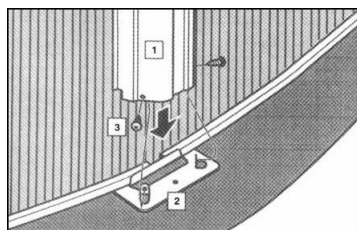
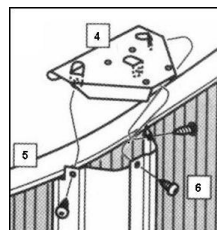

fig.27
fig.28
a. Line the bottom of one of the vertical profiles (VER) (1) with the two small tabs on the motherboard plate T1 (2). The tabs must be inside the vertical profile, fig. 27.
b. Align the holes for the screws TO2 (3), (550 ref -. Mod 230th / 350th / 460th - Ref. 551 -. Mod 550th - Ref. 552 - Mod 640th), on both sides of the vertical profile, making sure to fix the holes inside the tabs of the T1 plate (2), fig.
c. Put a top plate T2 (4) (ref. 571) onto the top edge of the pool wall and the vertical profile (VER) with the tabs inside the profile, fig. 28.
d. Align the holes for the TO2 (6) screws (fig. 28) to the three holes of the vertical profile, making sure to fasten the holes in the tabs on the T2 plate (6).